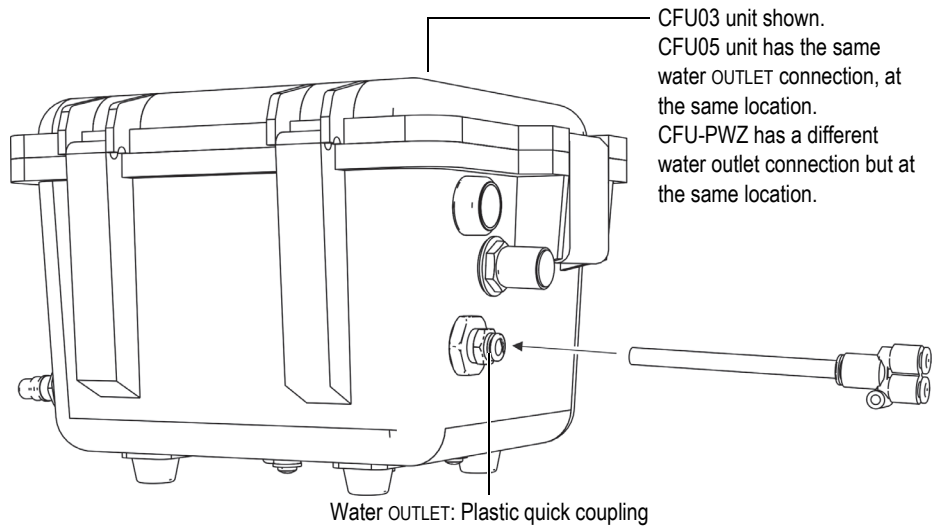

Figure 2-9 Water OUTLET connection
3. Insert the tube into the OUTLET connector (see Figure 2-9 on page 35).